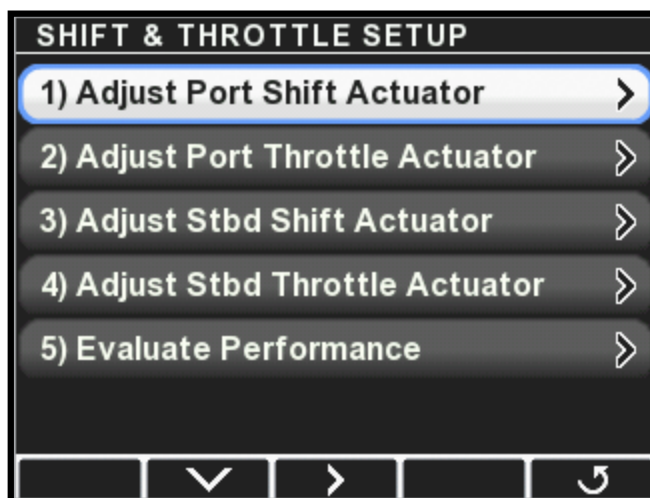

Figure 6-1. Shift and throttle setup screen.
4. Navigate to **Dealer Menu > Initial Setup > Shift & Throttle** to get to the Shift & Throttle Setup menu (figure 6-1).